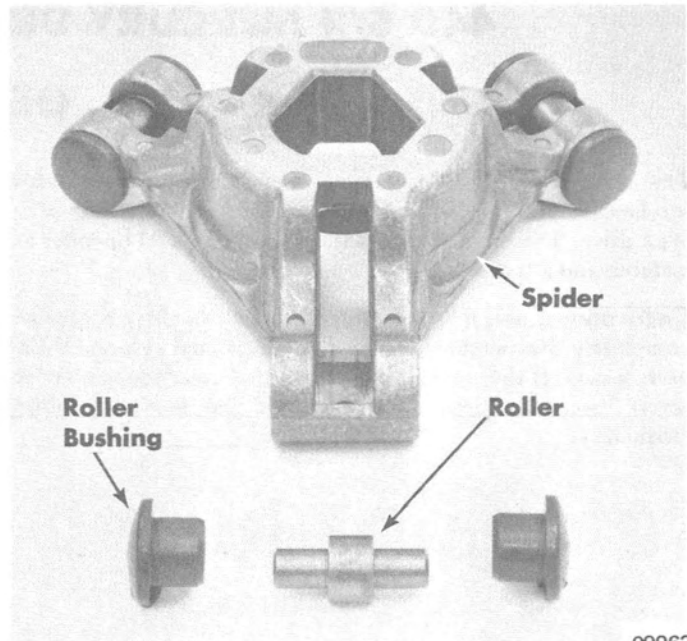

Figure 5. Spider, Rollers and Roller Bushings
2. Install rollers and roller bushings in spider (Figure 5) with Bellows Adhesive (C-92-36340A1) applied to OD of roller bushings. DO NOT permit adhesive to get on rollers.